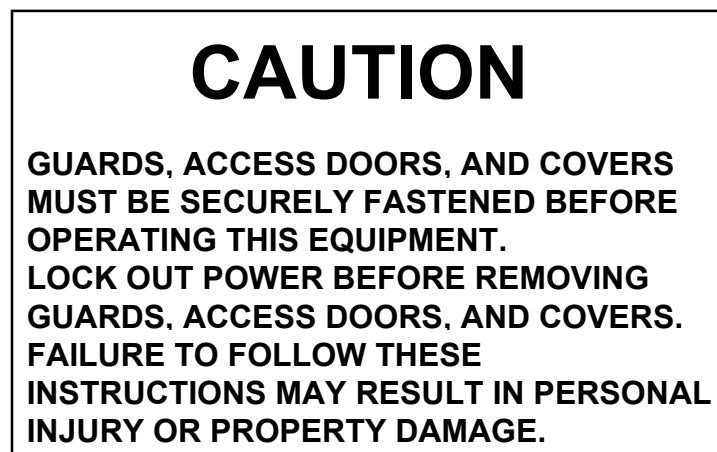

**FIGURE 5**
19. Install drive at proper location in accordance with separate instructions provided and as shown in Figure 5. After electrical connections have been made and before handling any material, check screw rotation for proper direction of travel. Incorrect screw rotation can result in serious damage to conveyor and to related feeding, conveying, and drive equipment. If rotation is incorrect, have electrician reverse motor rotation. When looking at the conveyor from the inlet towards the discharge, a right hand screw should rotate counter clockwise. A left hand screw section should rotate clockwise when viewed from the same perspective.